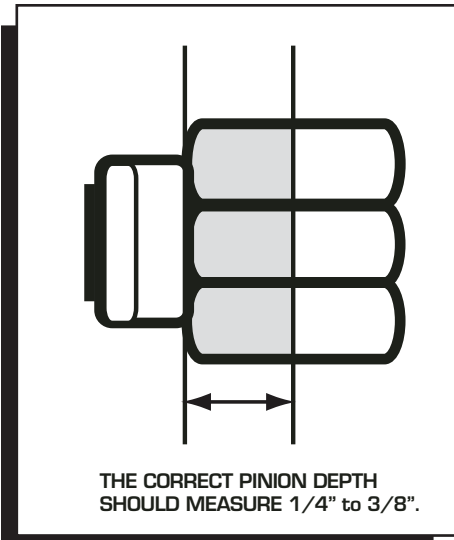

Figure 2 Pinion Gear Pattern.
3. After confirming clearances and position of the solenoid, it is time to check the pinion engagement to the ring gear. This is done by gently prying out the pinion gear to the ring gear. The pinion should engage by 1/4" minimum and 3/8" max on to the ring gear (Figure 2)